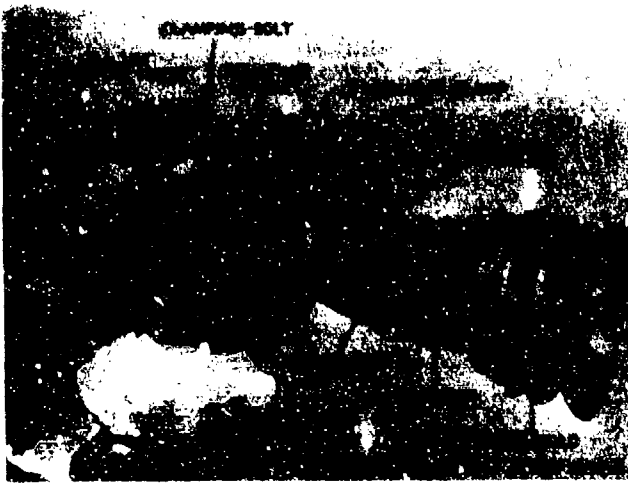

Figure 3-16. Telescope mount M23 with elbow telescope M16A1D.
a. The elbow telescope M16A1D, mounted in the telescope mount M23 (fig 3-16) on the right side of